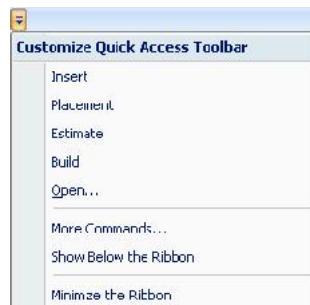

Figure 5-81: *Customize Quick Access Toolbar* menu
- From the *Customize Quick Access Toolbar* menu (see figure 5-81 on page 60), select **More Commands**.